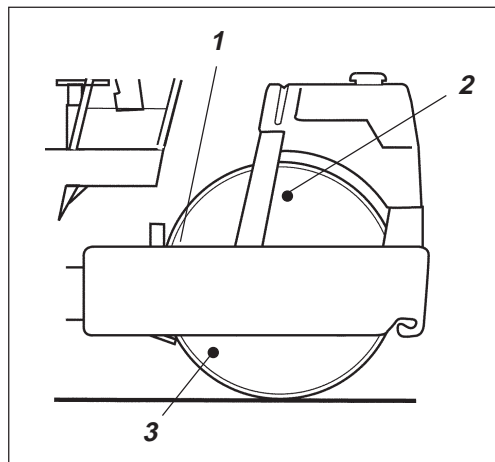

Fig. 25 Drum
Run the roller to position the plugs (2) at the top, level plug (1) at the same height as the drum frame, see figure 25.